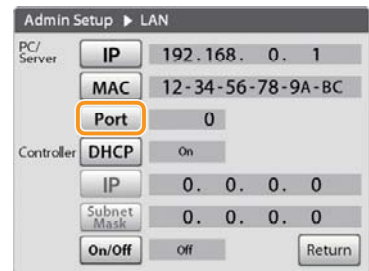

Figure 3-100
- Tap [Port] of [PC/Server]. (Figure 3-100)